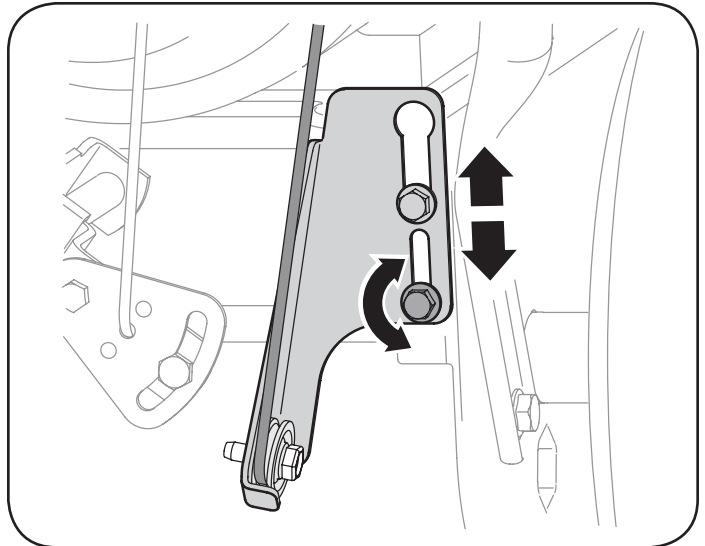

Figure 29
6. Loosen the lower hex bolt on the drive cable bracket. See Figure 29.